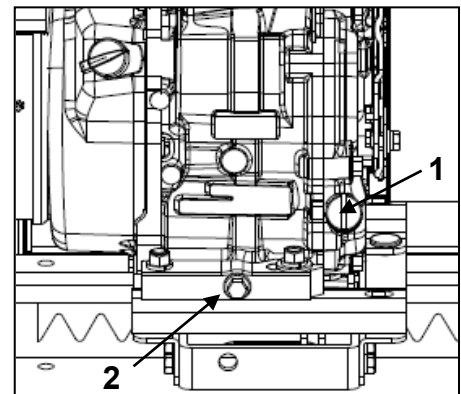

Figure 13
- Refer to engine manual. With the engine cold or stopped at least for 10 minutes on a level place. Check level with the oil filter cap (1, Figure 13). Unscrew the plug, wipe it and install without screwing it. Check the level. That must be between the two marks.
Remove oil drain plug (2, Figure 13) in case of changing oil.